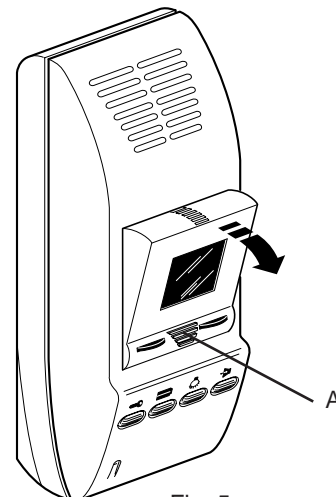

Fig. 5
- Fig. 5- Adjust the screen angle by means of adjuster A.